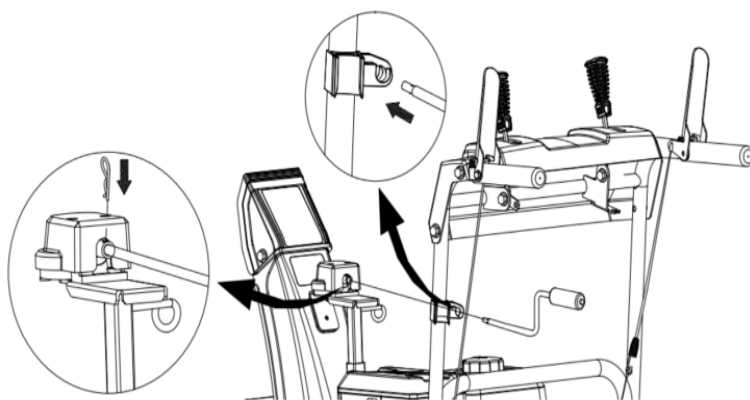

Figure 6
1. Slide Chute Handle through Chute Handle Guide near the Upper Panel, as indicated on Figure 6.
2. Attach Chute Handle to base of Chute Gear Connection and secure with Cotter Pin, as indicated on Figure 6.